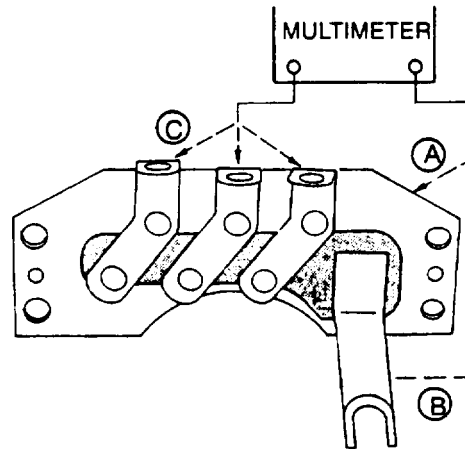

Figure 4-4. Rectifier Bridge Test
- c. Set multimeter for ohms and check rectifier bridge assembly (Figure 4-4) by noting multimeter indications between point A and each point C, and between point B and each point C. Reverse leads, repeat checks and note indications. If readings are the same in both directions for any diode, replace entire rectifier bridge assembly. A good diode will have a high indication in one direction and a low indication in the other.